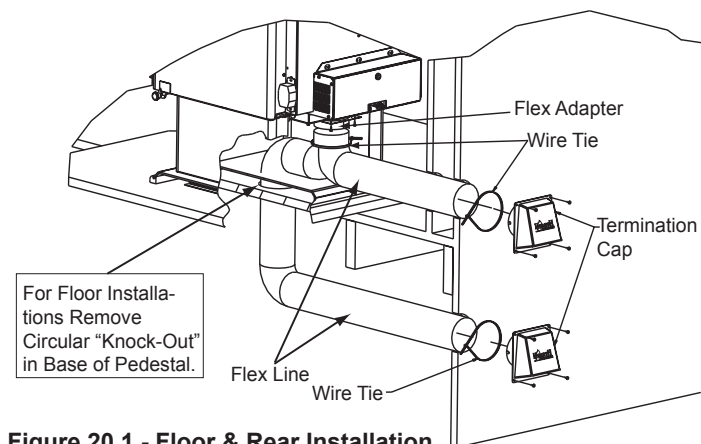

Figure 20.1 - Floor & Rear Installation
2. Using a #2 Phillips screw driver attach the flex adapter to the appliance using 4 screws (**Figure 20.1**)